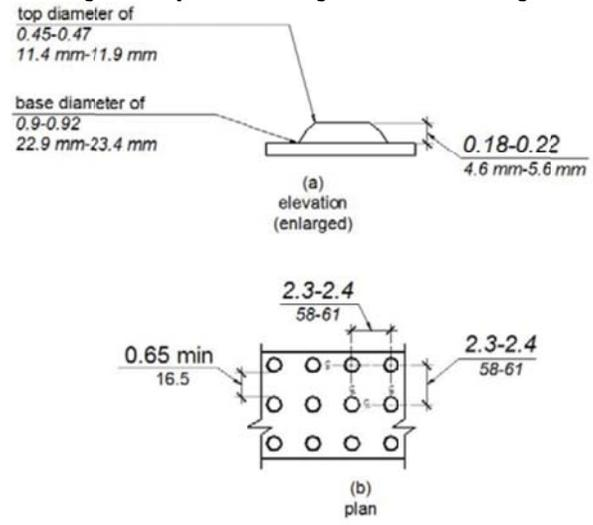

FIGURE 11B-705.1
- ❑ Including raised, truncated domes per CBC Figure 11B-705.1: